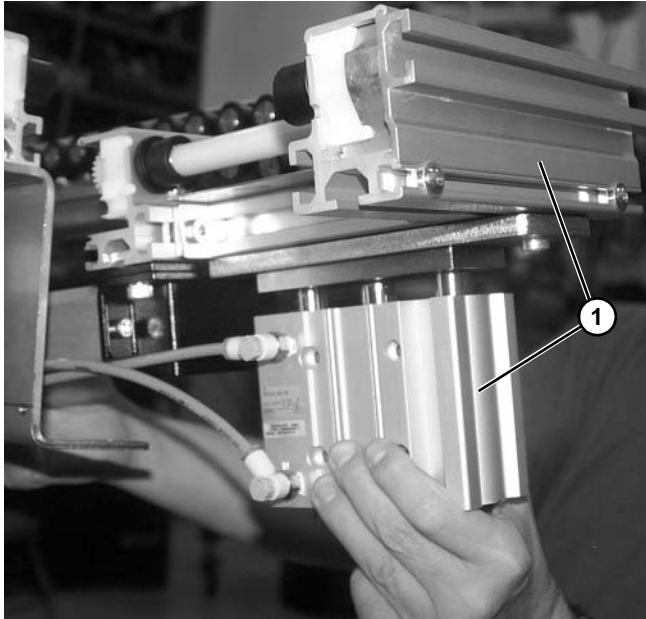

Figure 113
11. Remove entire lift and transfer section and cylinder (Figure 113, item 1) from conveyor onto work surface.